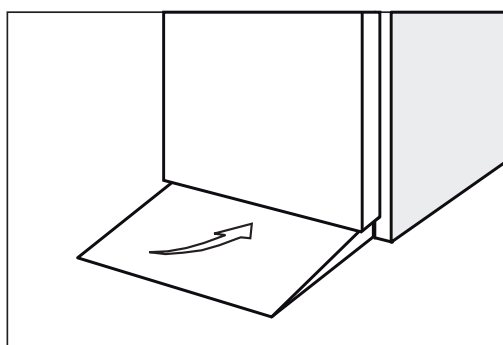

Fig.6
- position the access ramp (Fig. 6)